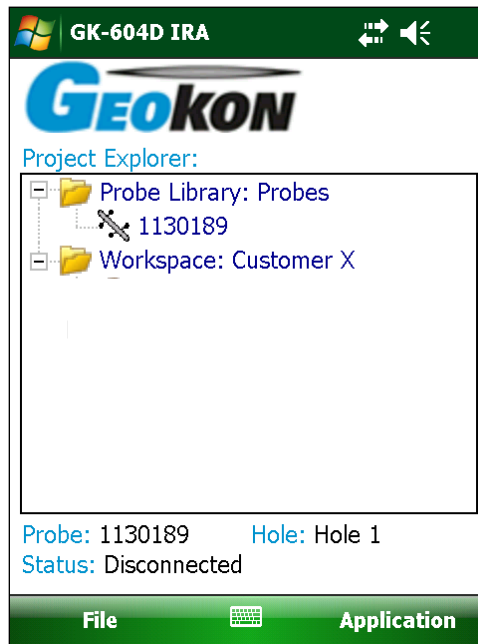

Figure 9 - User Interface
- 2) The Main Window shown in Figure 9 will be displayed. (If prompted to create a workspace name, refer to Section 2.5)